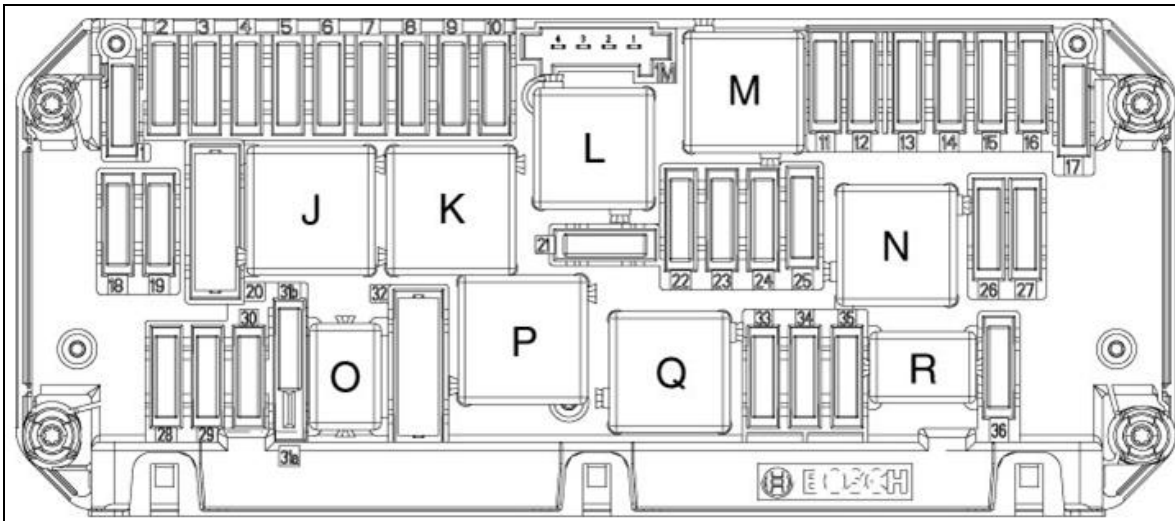

Figure 1
- Terminal 15 relay (Figure 1, Slot J)
- Terminal 15R relay (Figure 1, Slot K)
- Terminal 87 relay (Figure 1, Slot N)
- Secondary air injection pump/oil cooler relay (Figure 1, Slot P)